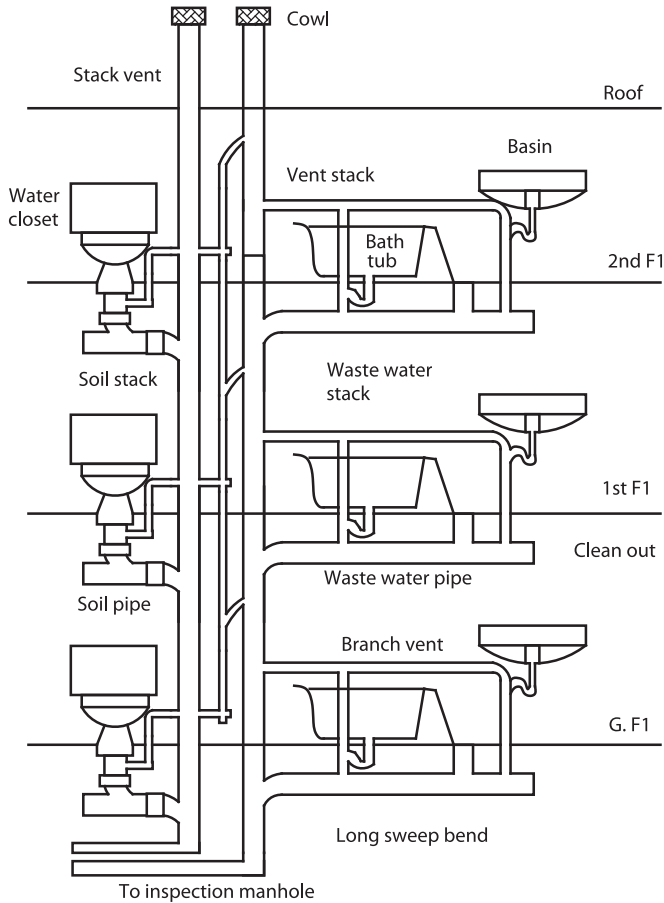

Figure 10.23: Two pipe system
i. Two Pipe System: In this system, two separate pipes are installed for conveyance of wastes generated from a building (Figure 10.23). Fixtures which receive human excreta and urine are connected to soil pipe and ultimately discharged to a drainage pipe (vertical pipe) called soil stack. Stacks are connected to sanitary sewer. Fixture, which receive waste water for example basins, bathtubs, showers are connected to a separate horizontal pipe called wastewater pipe, which discharges into a separate vertical stack known as waste water stack. These stacks are connected to a combined sewer. The soil pipes as well as waste pipes are separately ventilated, by providing, separate vent pipe or anti-siphon age pipe. This system has four vertical pipes.